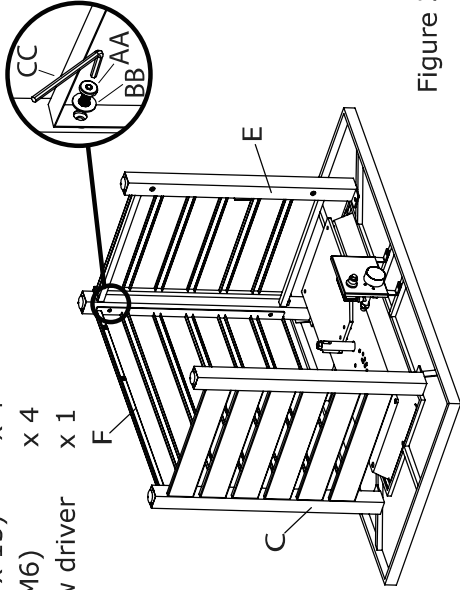

Figure 3
- Attach back panel (F) to right panel (C) and door panel (E) with bolts (AA) and washer (BB) using hex screw driver (CC), (see Figure 3).